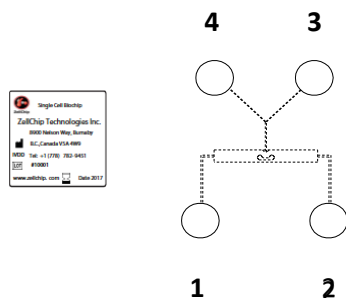

Fig.1 Single Cell Biochip orientation
To use the Single Cell Biochip properly it must be used in correct orientation See Fig 1. The Company logo should be on the left side .
2. Put the Biochip on the bench so that the Chip Label faces up and is on the left side, see Fig 1. below